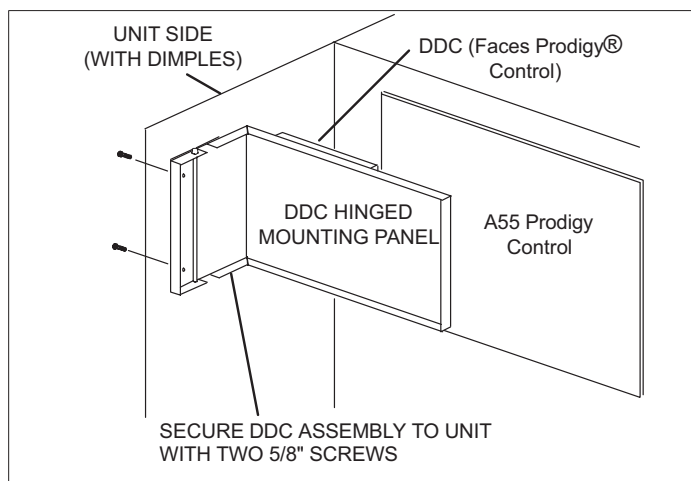

Figure 1. 036, 060, 120 Units – Installing DDC Hinged Mounting Panel
4. 036, 060, 120 Units: Position DDC hinged mounting panel as shown in figure 1. Make sure the DDC faces the A55 Prodigy control board. Align holes on hinged bracket with dimples on the unit side. Secure DDC panel to unit with two 5/8" screws.